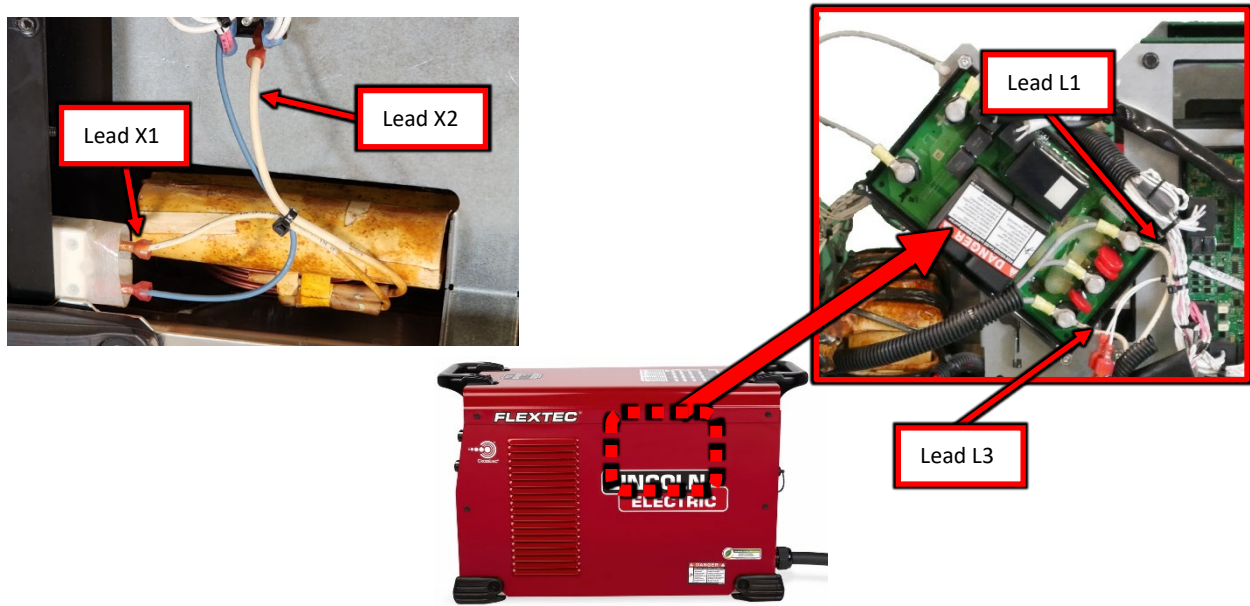

Figure F.2
- A.2. Label and disconnect the following connections, refer to Figure F.2.
- A.3. Perform the static measurements in Test Table 1, refer to Figure F.2 for test point locations. NOTE: MEASUREMENTS ARE MADE ON THE DISCONNECTED LEADS.